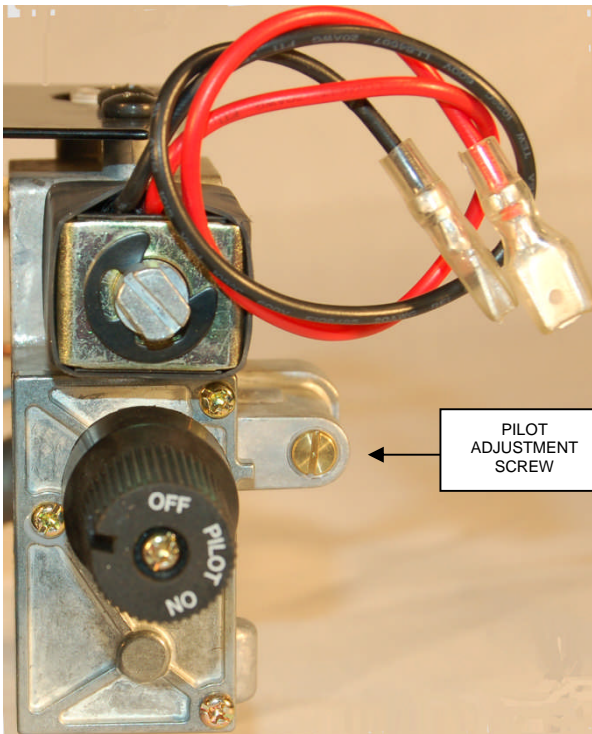

FIGURE 22
- 3- Push in the gas control knob slightly, and turn it in a clockwise direction to the OFF position. **DO NOT FORCE! NEVER USE ANY TOOL, TO ROTATE THE GAS CONTROL KNOB!** If gas control knob will not rotate, contact your installer or the **firegear** Service Center. (SEE FIGURE 22 & 23)
The pilot flame should be a soft blue in color, and should surround the last 1/2" of the thermocouple tip. The pilot adjustment screw is located on the valve, just to the right of the control knob. (SEE FIGURE 22)
If the pilot flame must be adjusted, use a standard slotted screwdriver to turn the screw clockwise to reduce the flame, or counter-clockwise to increase the flame. (SEE FIGURE 22 & 25)